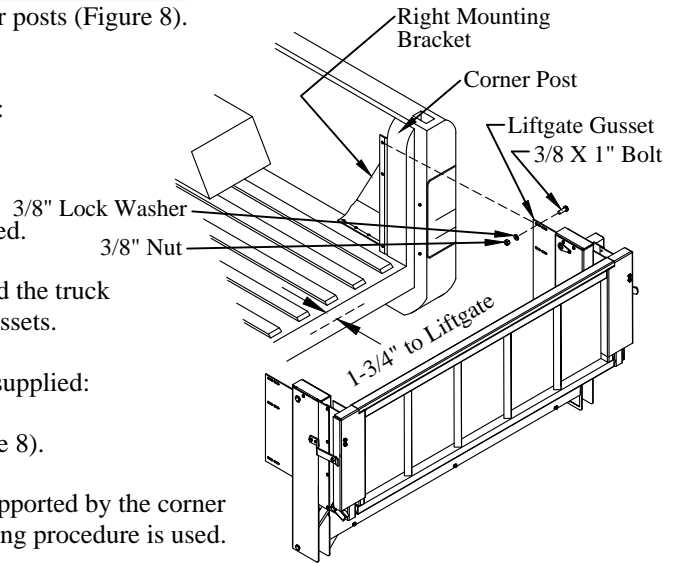

Figure 8: Mounting bracket and liftgate.
1. **Position** the mounting brackets into the truck bed in front of the corner posts (Figure 8).
- (3) 3/8"x1" hex head bolts on the bracket-side (Figure 8).
- (3) 3/8" lock washers, and (3) 3/8" nuts on the gusset-side (Figure 8).